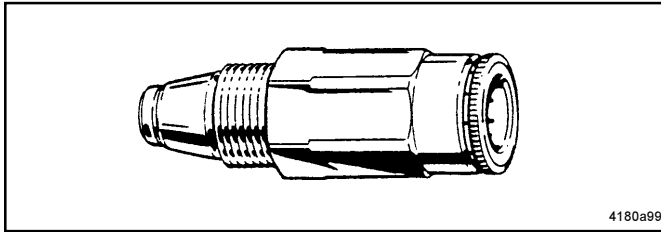

Fig. 3 - Check valve, push-in type
- Each outlet used must be equipped with an appropriate check valve (see page 4, Fig.3.).
• To change outlet 2 for bearing lubrication, replace closure plug with check valve (Fig. 3), **keep outlet 1 open.**